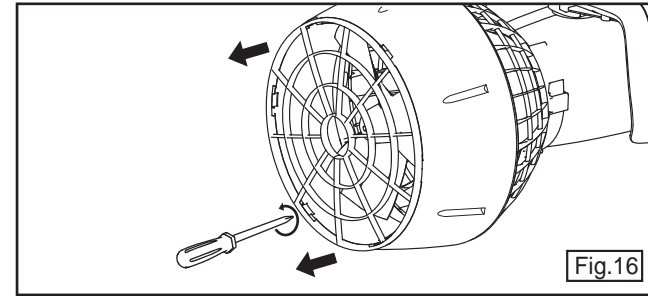

Fig.16
4. Unscrew the six rear grille screws as shown in figure 16.